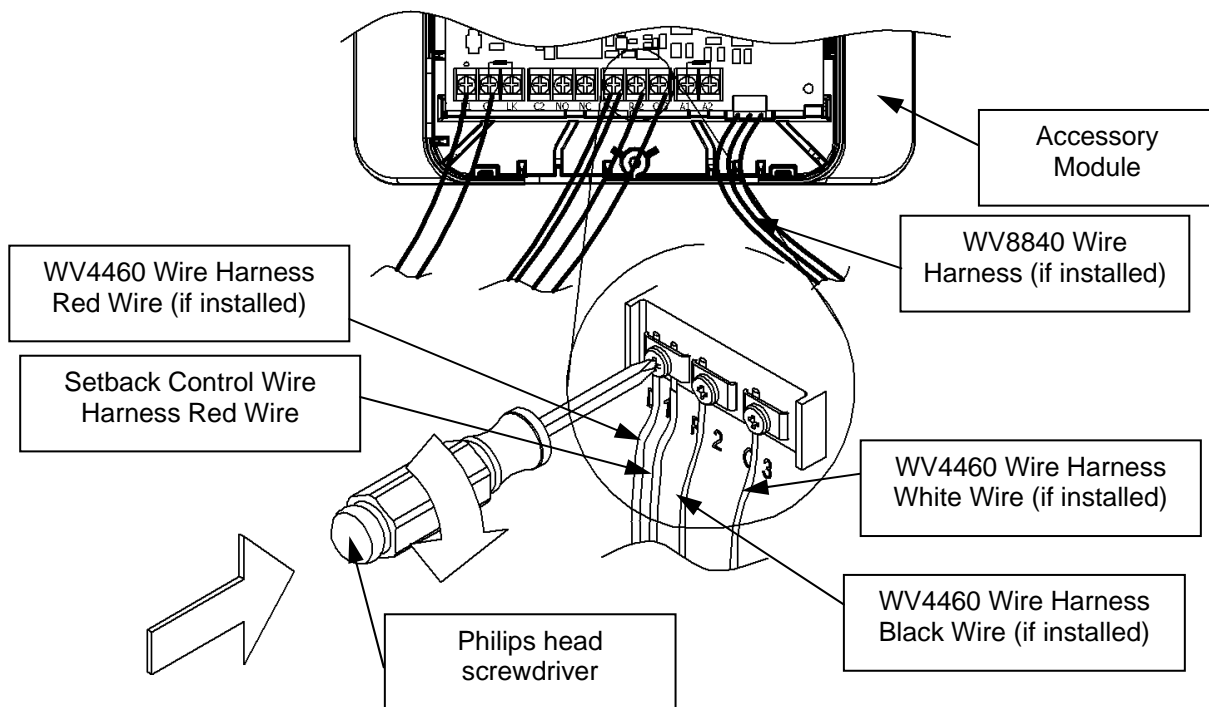

Figure 44
Step 17: Tighten the screw labeled "D/1," as shown in Figure 44.